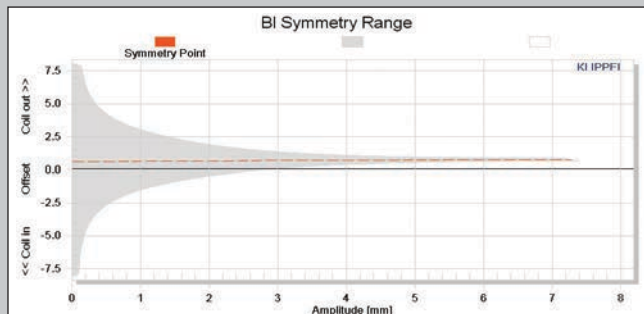
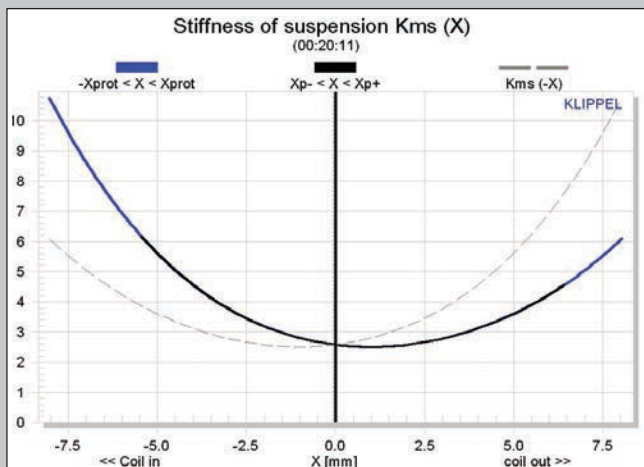
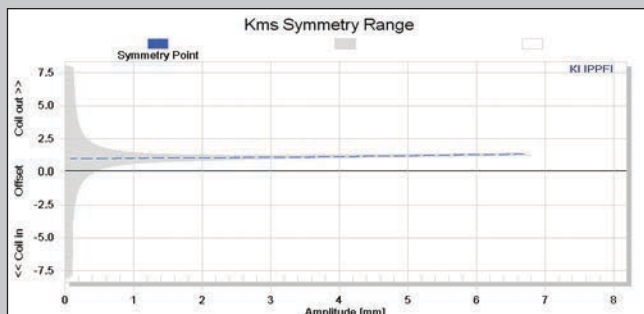

Figure 7: Klippel analyzer BI symmetry range curve for the B&C 12FHX76
Figure 8: Klippel analyzer mechanical stiffness of suspension $K_{MS}(X)$ curve for the B&C 12FHX76
Figure 9: Klippel analyzer K_{MS} symmetry range curve for the B&C 12FHX76
forward (coil-out) at the rest position and only increases to 0.86-mm at the driver's physical X_{MAX} , suggesting that this driver is just slightly out from magnetic center, but probably within QC tolerance (see **Figure 7**). **Figure 8** and **Figure 9** depict the K_{MS} (X) and K_{MS} symmetry range curves for the 12FHX76. The K_{MS} (X) curve is also quite symmetrical in both directions, with a small amount of coil-out (forward) offset. The K_{MS} symmetry curve shows the offset is 1 mm at the zero rest position, and only increases to 1.4 mm at the physical X_{MAX} . The 12FHX76's displacement-limiting numbers, calculated by the Klippel